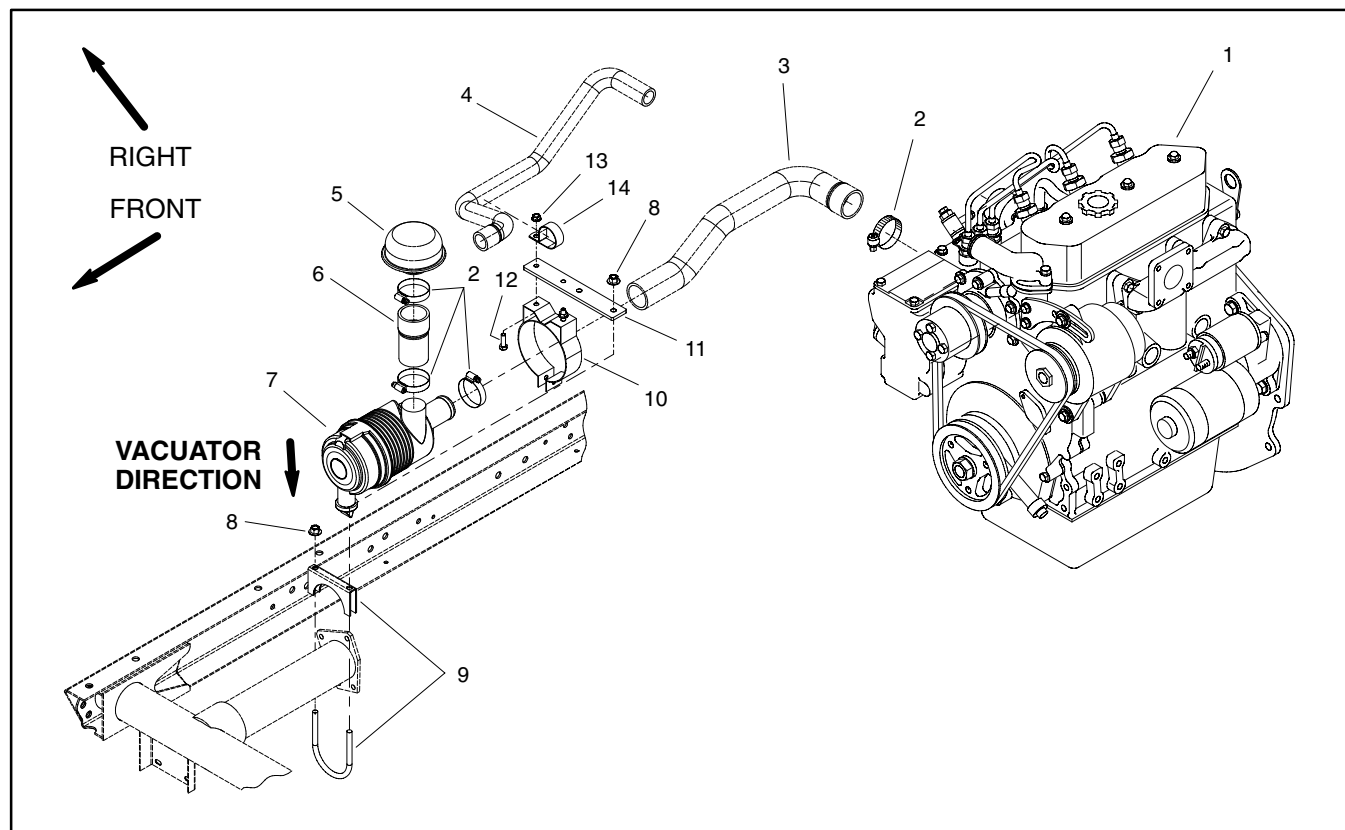

Figure 8
Removal (Fig. 8)
3. Remove air cleaner components as needed using Figures 8 and 9 as guides.
Installation (Fig. 8)
1. Reassemble air cleaner system using Figures 8 and 9 as guides. Air cleaner hose (item 6) and air inlet hood (item 5) should be positioned straight upward. The vacuator valve on the air cleaner assembly should be positioned downward.